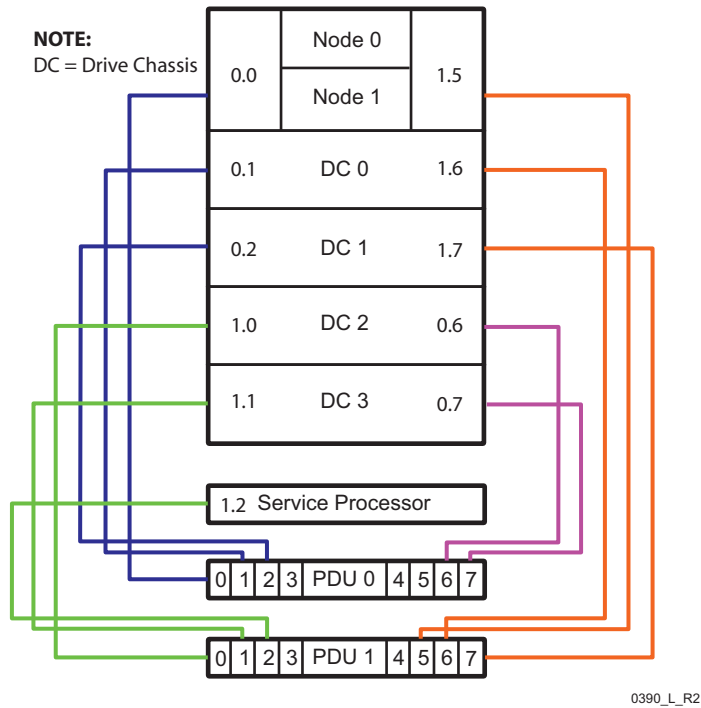

Figure 21-2. A Valid Redundant Power Configuration Diagram (1M)
- Figure 21-2 illustrates a valid redundant power configuration for a storage server in a 1M rack.